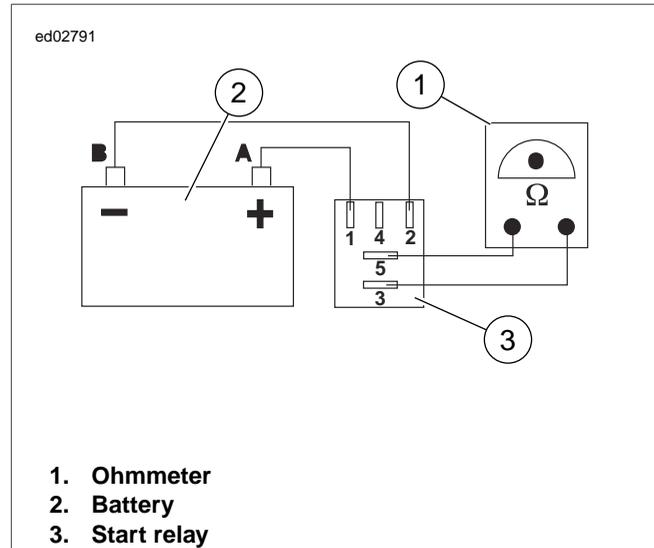

Figure 1-5. Start Relay Test
- b. See Figure 1-5. To energize the relay, connect the negative battery terminal to the relay terminal "85" or "2" and relay terminal "86" or "1" to the positive battery terminal.